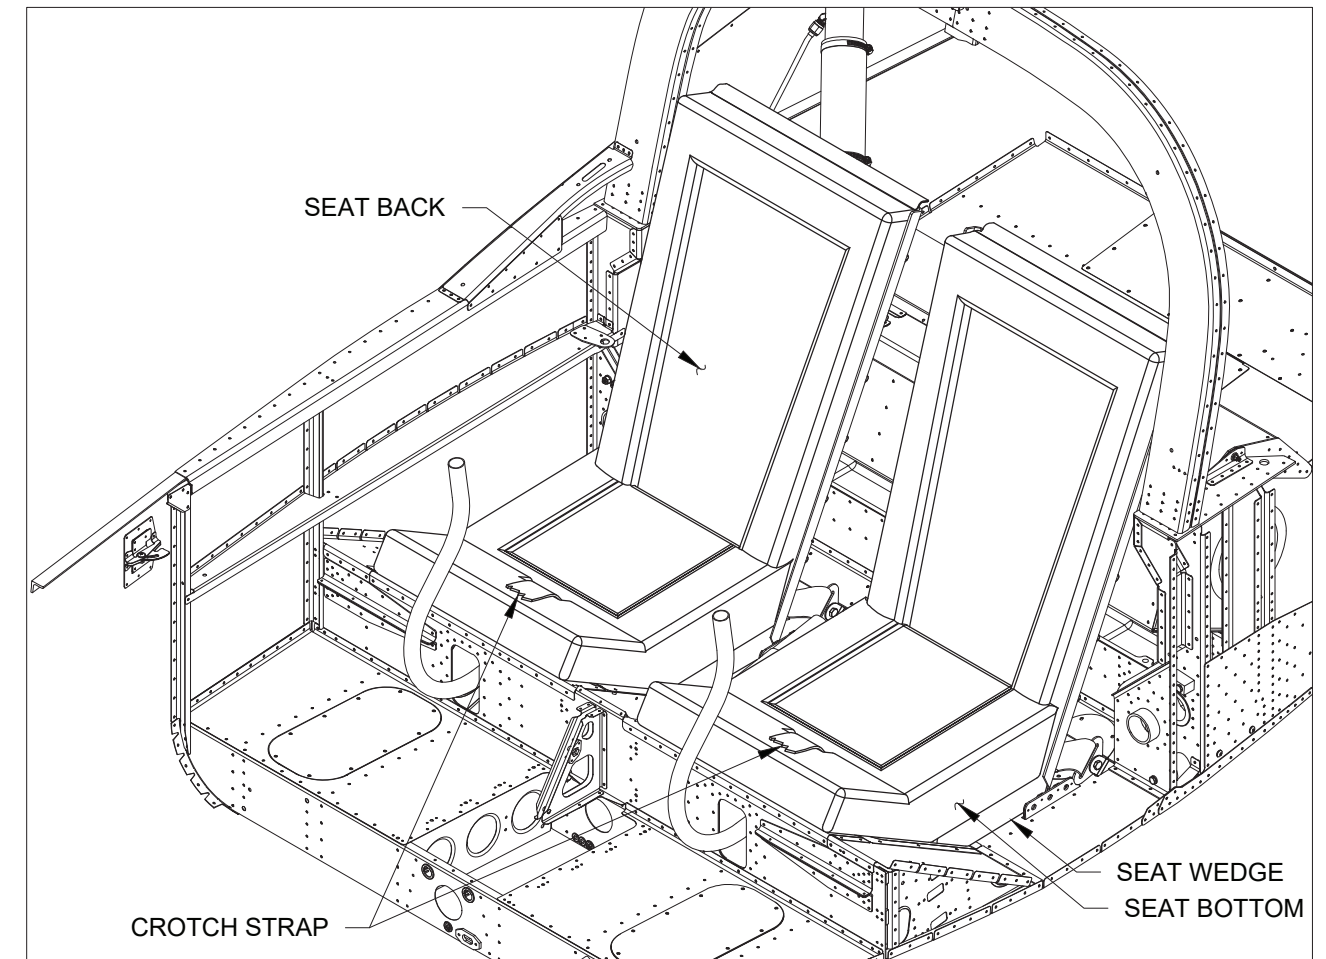

FIGURE 2: SEAT INSTALLATION
Step 2: Position the Seat Wedge, Seat Bottom, and Seat Back as shown in Figure 2. Pull the crotch strap through the slot in the seat bottom as shown.